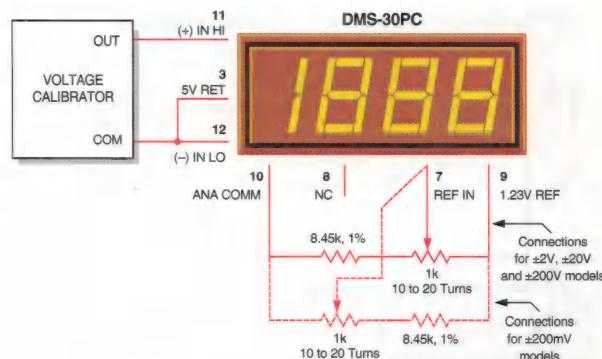

Figure 10. External Gain Adjustment
8. External Gain Adjustment: Connect REFERENCE OUT (pin 8) to REFERENCE IN (pin 7) for normal, factory calibrated, operation. Use the +1.23V REFERENCE OUT (pin 9) for applications needing external gain adjustment. Figure 10 shows the wiring configuration for each model. Calibration is performed with a precise, near-full-scale, input voltage.